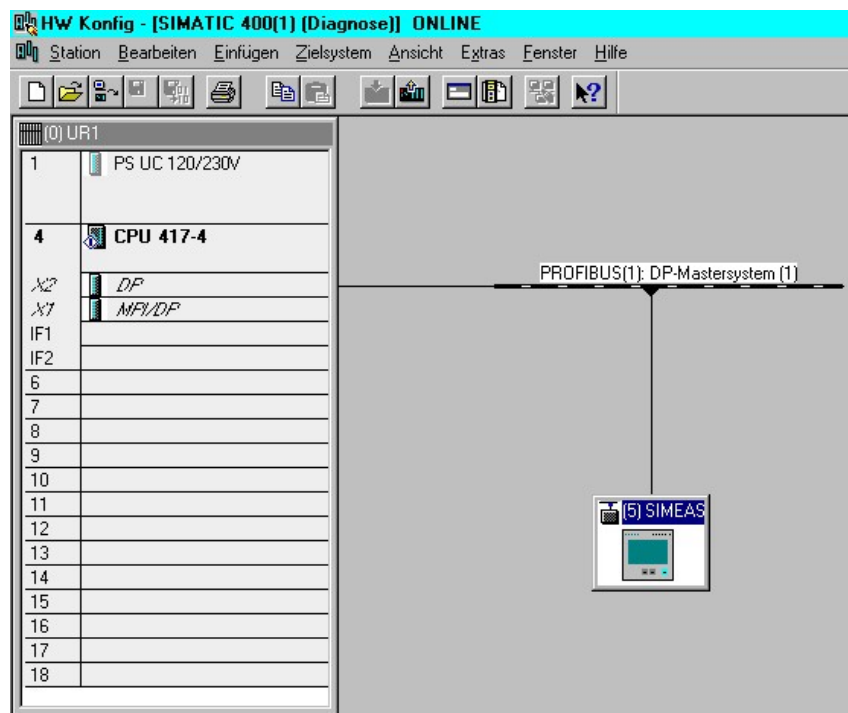

figure 6: HW-config online mode
7. Please check the profibus network, whether all devices are working properly. One possibility to do this, is to switch the HW-config into online mode. Incorrect working slaves will be shown with a red symbol. After a successful configuration of the network the HW-config should look like the following figure. (see: figure 6: HW-config online mode).